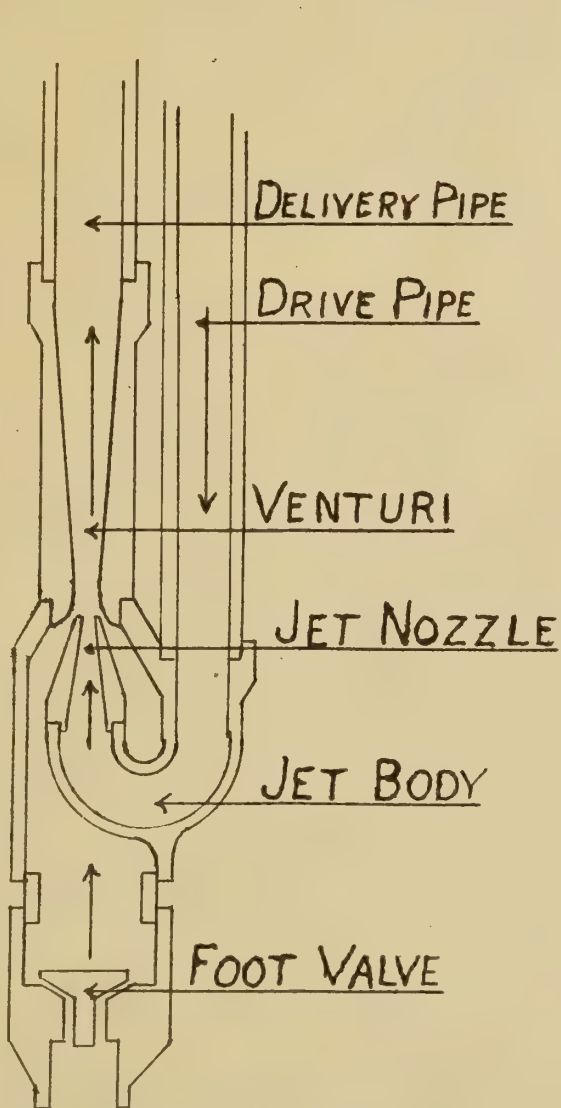

FIGURE 7
Figure 7 illustrates a jet pump. Water under pressure from the "pump" outlet passes down the drive pipe and is forced at high velocity through the jet nozzle and venturi. As it passes through the venturi this jet of water draws additional water up through the foot valve and forces it up the delivery pipe to within the suction lift of the shallow well pump at the top. The jet nozzle and the venturi must be adapted to the depth of the well.
*From Chart in Figure 7 of Report BMS66, National Bureau of Standards.